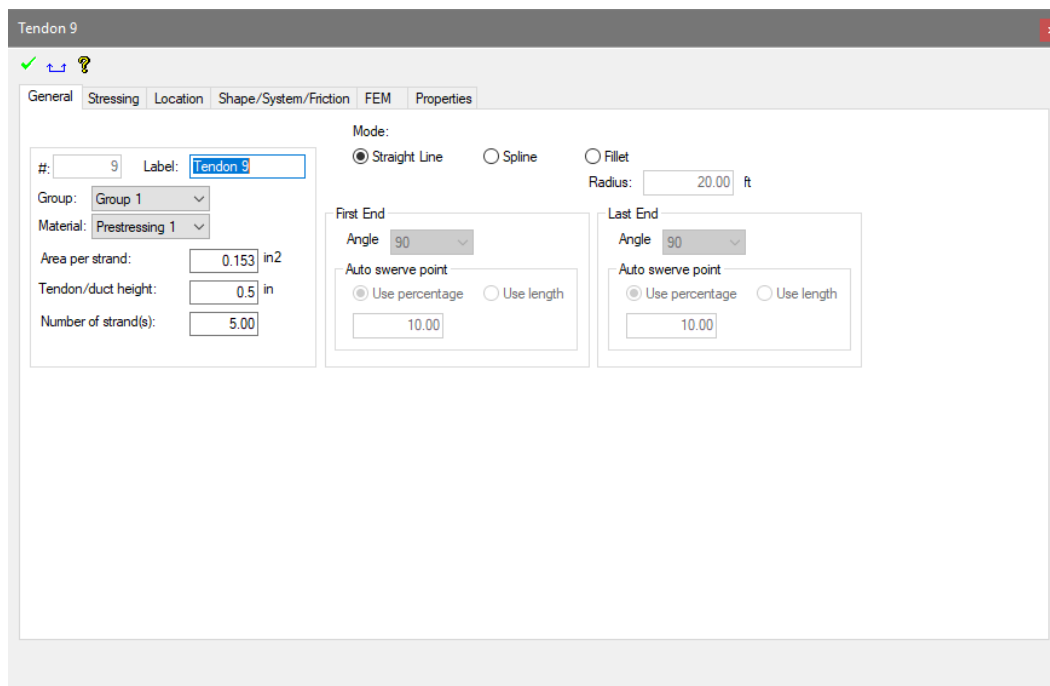

Figure 9-44
- At the top of the structure there are two tendons outside of the structure. We need to delete these tendons and replace them with a new tendon. First, we want to check the number of strands in this tendon so that we can have the same number of strands in our new tendon we will draw. Double click on one of the two tendons to bring up its properties window shown in **FIGURE 9-44**.